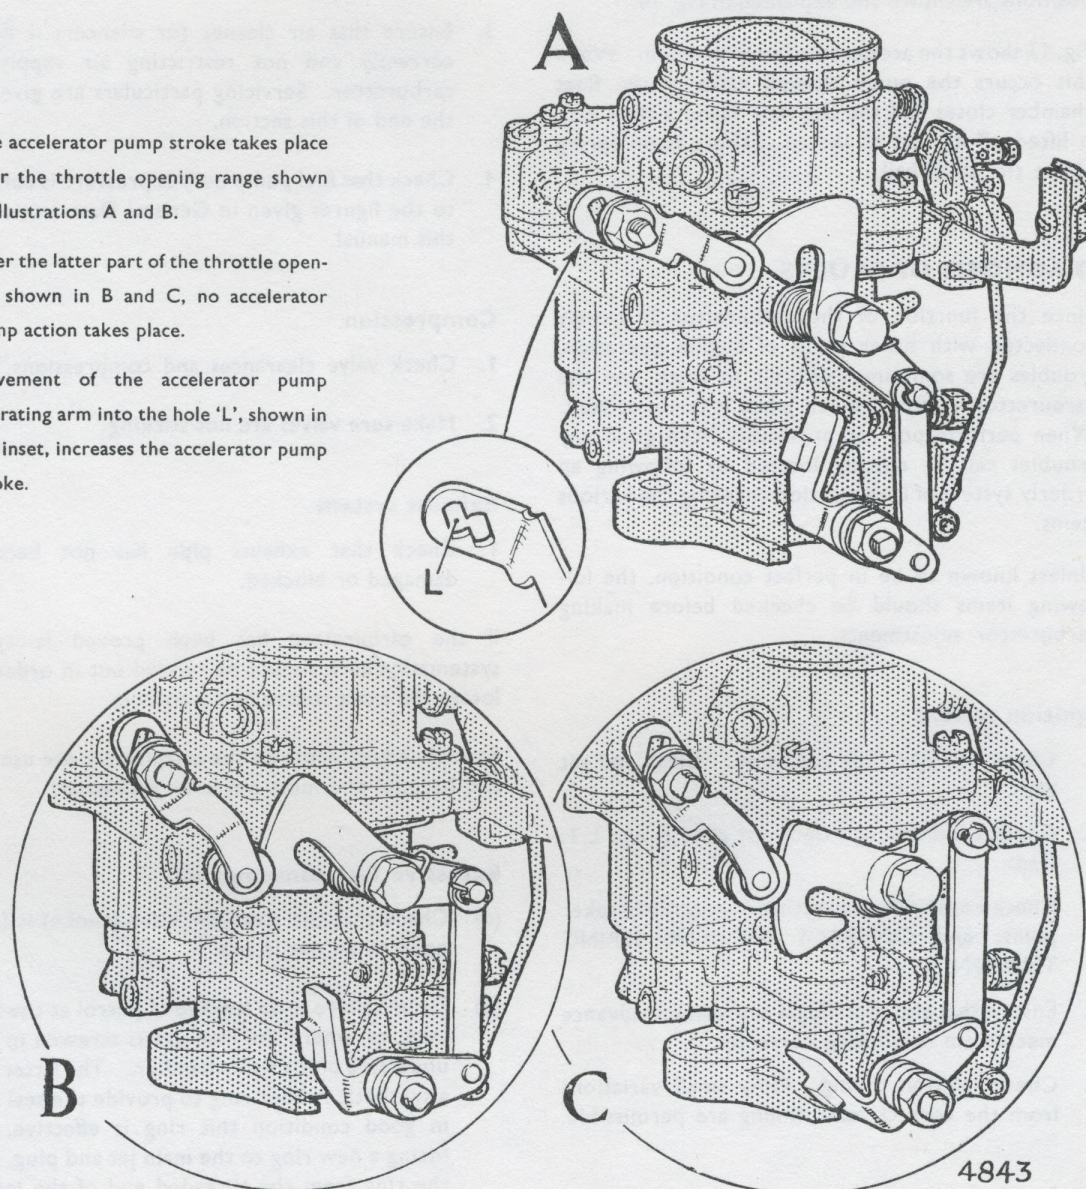

Fig. 14. Accelerator pump operating linkage
Provision is made for varying the pump travel, and long or short strokes may be arranged. These positions are shown and explained in Fig. 14.
- (d) Two settings are available for the pump stroke by using one of the two holes in the pump outside operating lever. The lever is normally set in the hole which gives a short pump stroke. The hole 'L' is used to give a long pump stroke. See Fig. 14. This hole provides the means required to vary the quantity of fuel delivered by the accelerator pump. If the pump link is in the short position, try the linkage in the hole giving maximum length of piston travel.